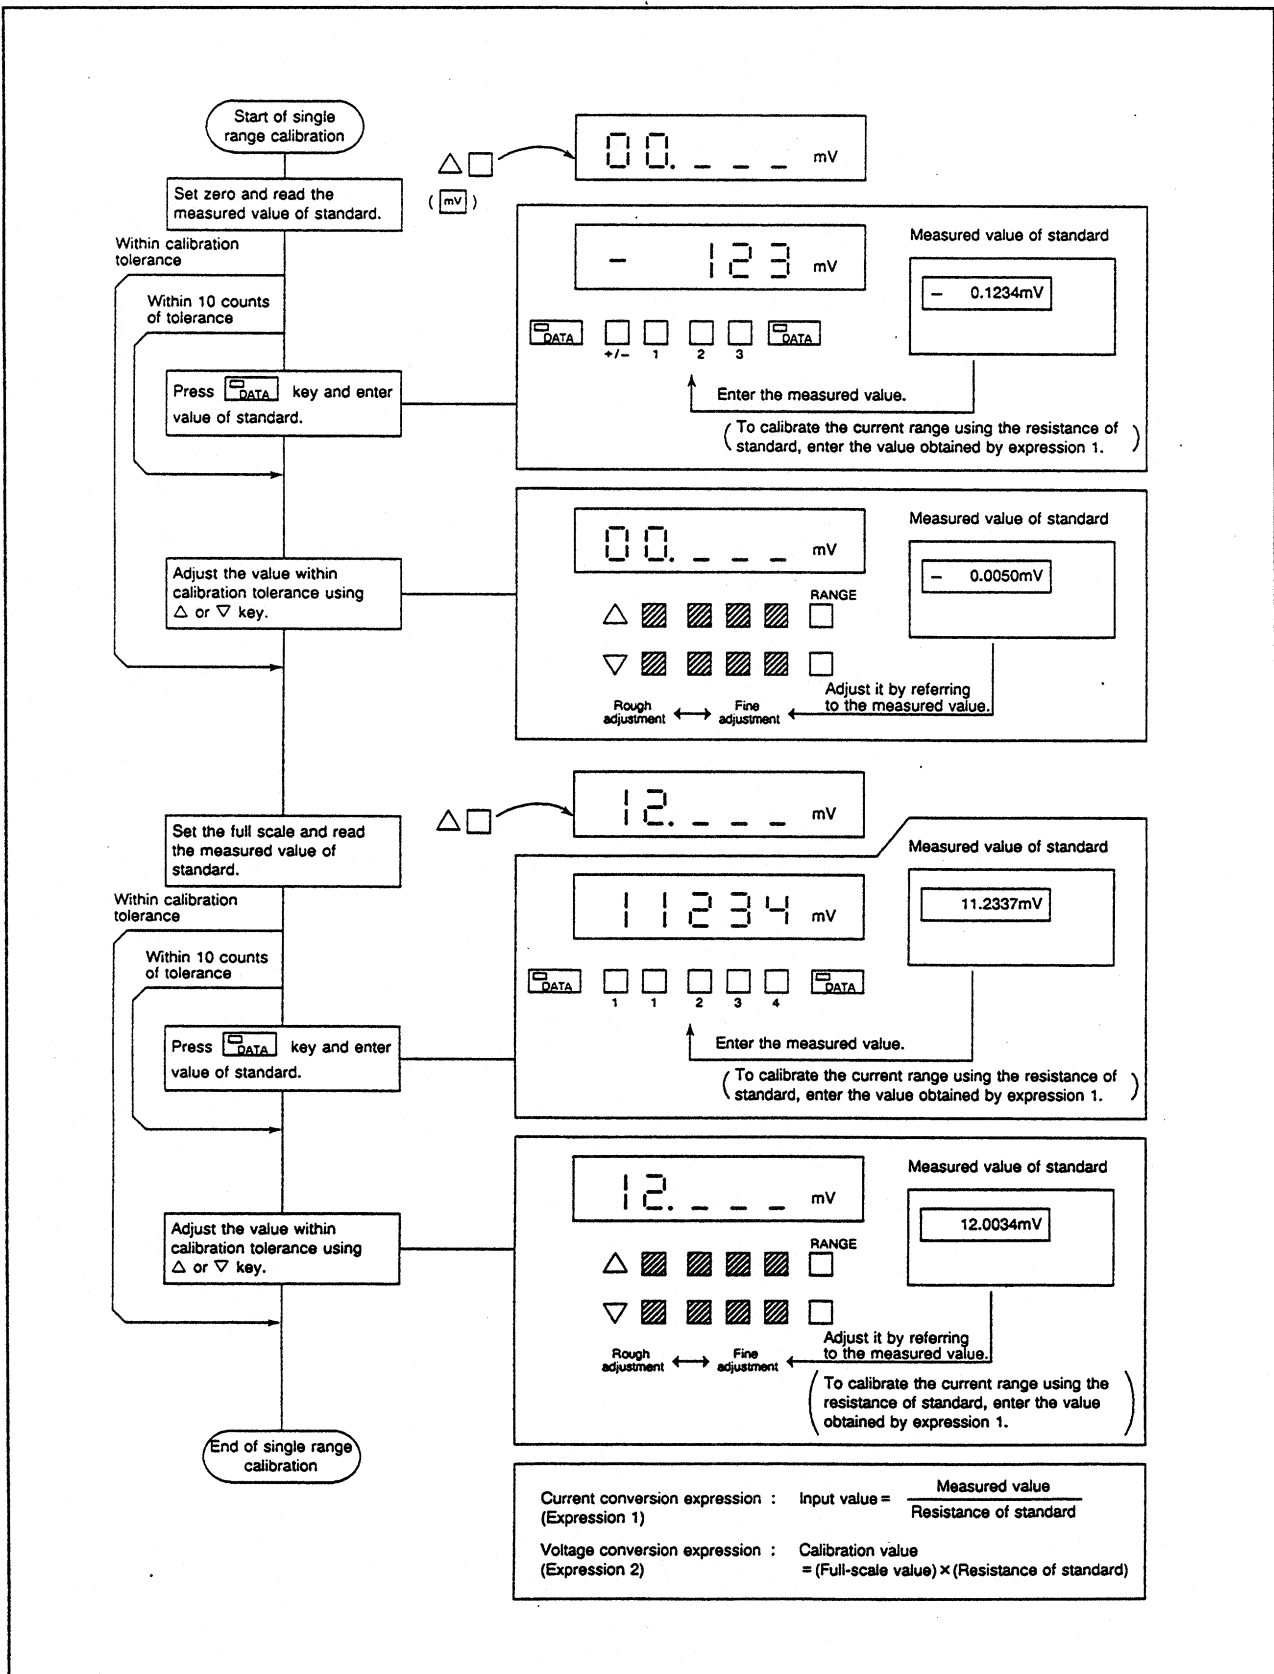

Figure 5-2 Calibration of A Single Range using R6142
- ⑤ Select the calibration range using the Δ or ∇ key, and set the standard as defined on Table 5-5.
- ⑥ Press the  key to light its LED. (OPERATE ON)
- ⑦ Calibrate and check the parameters using the Δ or ∇ key and  and  keys in the sequence of "+ Zero" and "+ Full scale as shown in Figures 5-2 and 5-3.
- ⑧ Press the  key to turn off its LED. (OPERATE OFF)
- ⑨ Repeat Steps ⑤ to ⑧ to calibrate the range between the setup functions.
- ⑩ Turn off the EXT CAL switch on the rear panel, and press the  STEP key.
- ⑤ Select the calibration range using the Δ or ∇ key, and set the standard as defined on Table 5-7.
- ⑦ Calibrate and check the parameters using the Δ or ∇ key and  and  keys in the sequence of "+ Zero" and "+ Full scale" as shown in Figures 5-2 and 5-3.